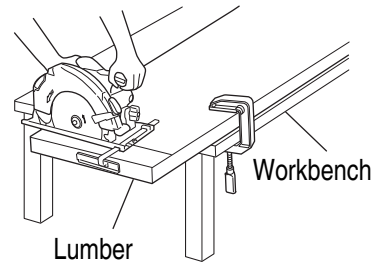

Fig. 2
4. Prepare a wooden workbench (**Fig. 2**)